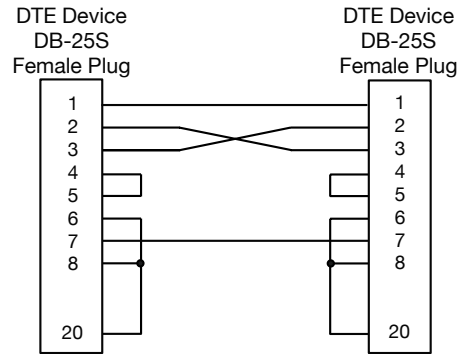

Figure 4 RS-232 Null-Modem Cable with Jumpers
If you are making your own cable, you can take advantage of the fact that most RS-232 devices only use Transmit Data, Receive Data and Ground. The remaining handshake lines can be jumpered back as shown in Figure 4 or ignored if they are not used by your serial devices. Select plug types to mate with your serial devices.
2. Needed control lines - Some devices need signal inputs on their control lines before they can send or receive while other devices have internal pullup resistors and can function with open inputs. If in doubt, add jumpers from a known 'on' signal such as the device's DTR or DSR output signal to the open input signal. For a 25 pin connector jumper pins 4 to 5 and pin 20 to pins 6 and 8 as shown in Figure 4.